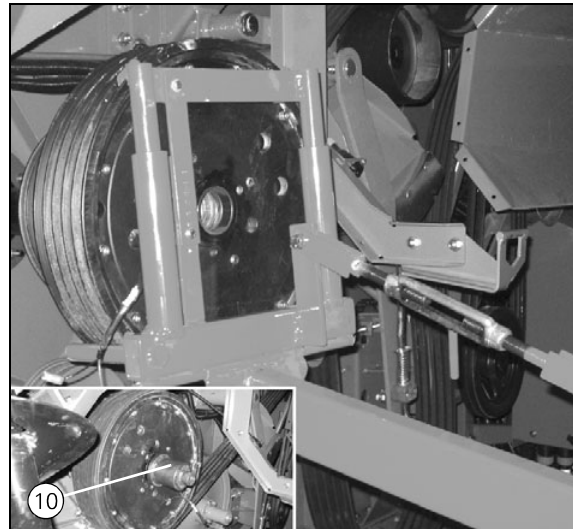

Fig. 43
13. Pull the magnetic clutch off the shaft and lift down using suitable lifting gear, see (Fig. 43).